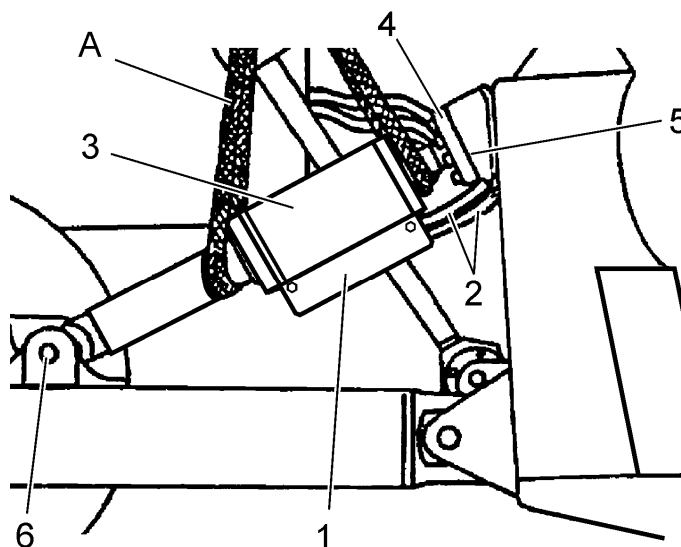

Fig. 10C.8. Bulldozer Blade Double Tilt/Pitch Cylinder Removal (R.H. Side)
1. Remove the hoses guard (1, Fig. 10C.8) and disconnect hoses (2) at the double tilt/pitch cylinder (3) and position out of way.
2. Attach a hoist sling (A) to the cylinder (3). The hoist must be installed to give the best possible balance. Place tension on the hoist.
3. Remove the bolts securing the socket cap (4) to the blade and move the cap off of the blade. Keep the socket cap shims (5) with the blade.
4. Remove the pin (6), then remove the cylinder (2) from machine.